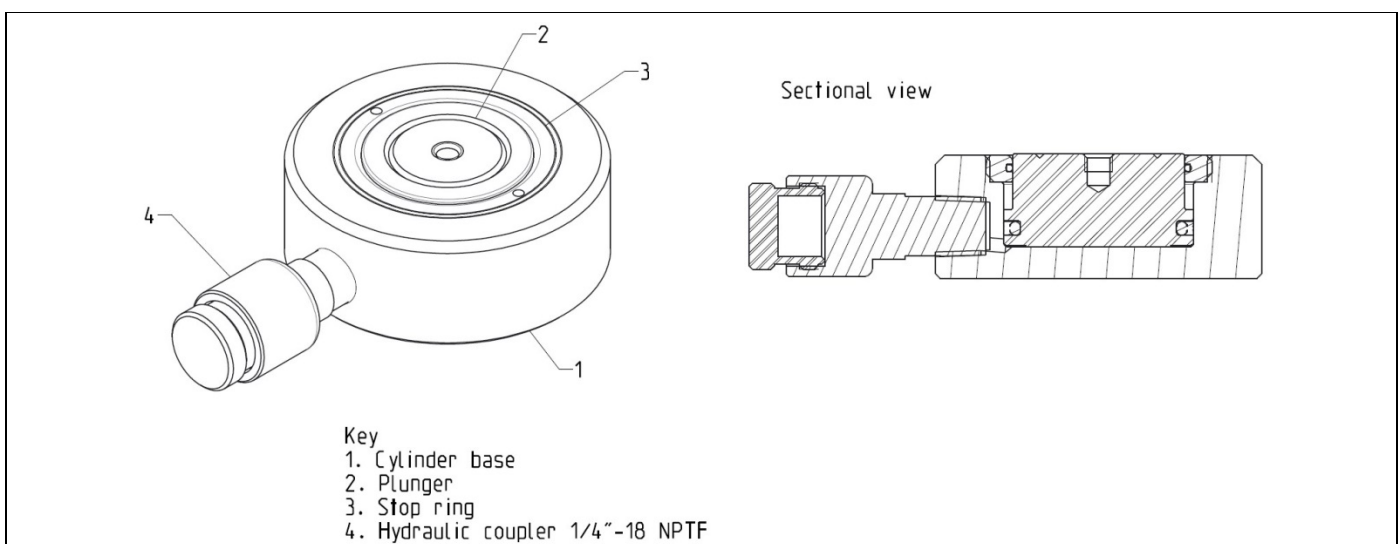

Figure 1, Major Features and Components
The CULP-series cylinders are equipped with one 1/4"-18 NPTF female coupler. Refer to Figure 1, item 4 for connection location.